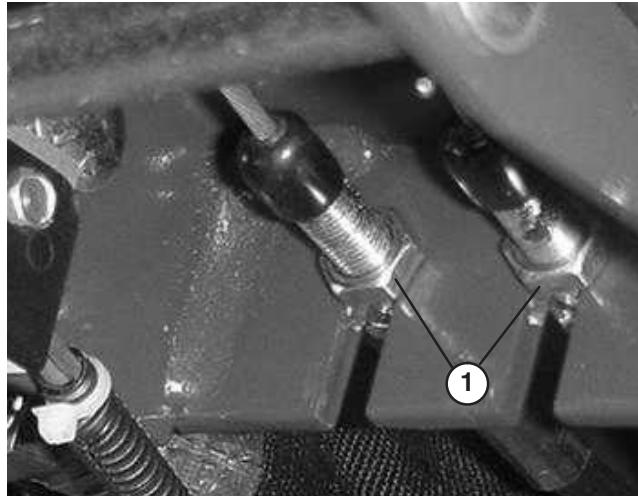

Figure 68
1. To reduce free travel of turn pedals—tighten the brakes—loosen front nut on threaded end of brake cable (Fig. 68). Then tighten rear nut to move cable backward until turn pedals have 1/2 to 1 in. (13 to 25 mm) of free travel. Tighten front nut after brakes are adjusted correctly.